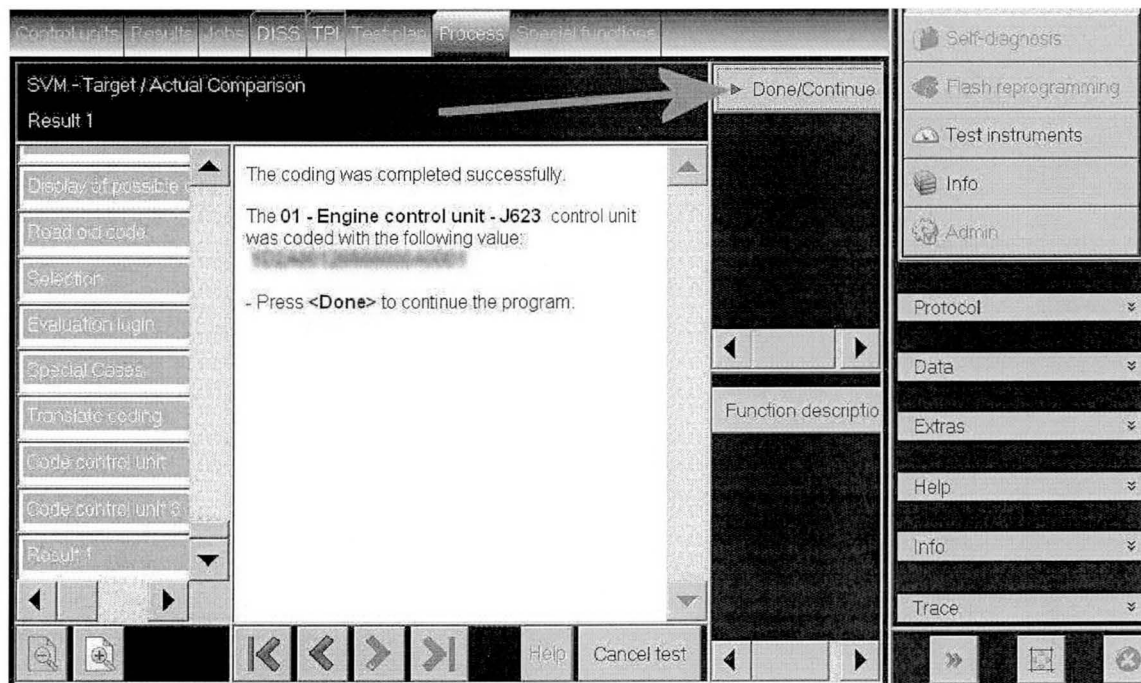

Figure 16
5. Follow all remaining on screen prompts until you arrive at Figure 16 which confirms the Coding of 01 – Engine control unit – J623 was completed successfully and select Done